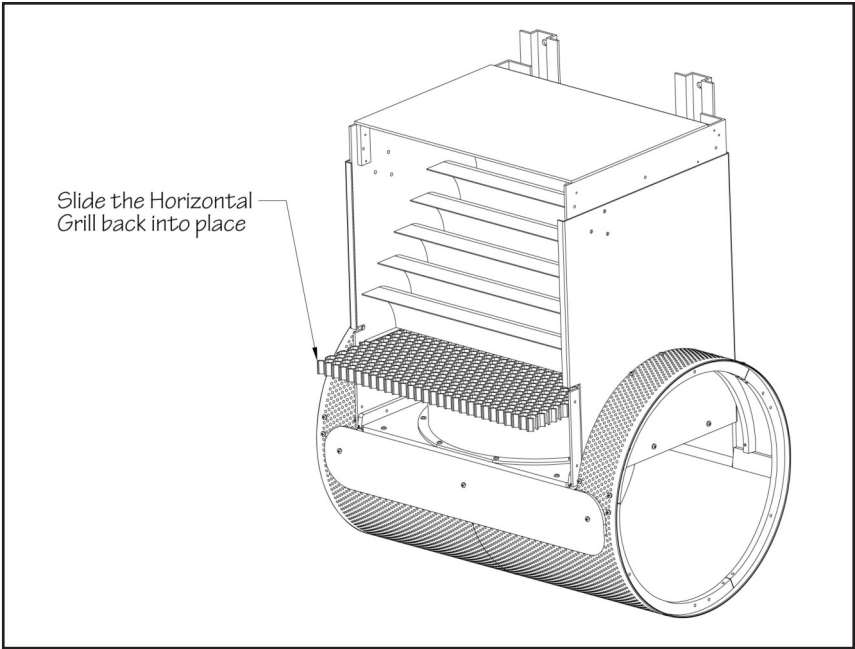

Fig. 6.7
6.9 Slide the horizontal water-conditioning grill back into its track inside the housing. The horizontal grill is the wider of the two grills (Fig 6.7).